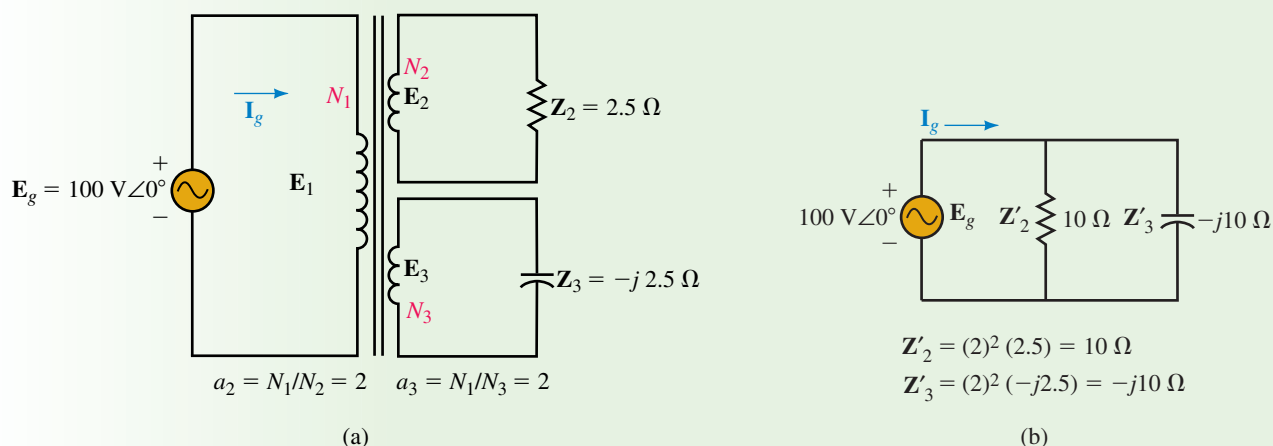

FIGURE 23-31
For the circuit of Figure 23-31(a),
a. See Figure 23-31(b).
Output: From Figure 23-31(b), $P_{\text{out}} = (100 \text{ V})^2 / (10 \Omega) = 1000 \text{ W}$ and $Q_{\text{out}} = (100 \text{ V})^2 / (10 \Omega) = 1000 \text{ VAR}$. Thus, $S_{\text{out}} = \sqrt{P_{\text{out}}^2 + Q_{\text{out}}^2} = 1414 \text{ VA}$ which, as expected, is the same as S_{in} .